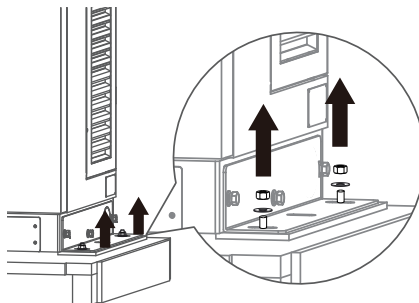

Figure 7. Detaching from Pallet
3) Remove the 4 M10 bolts that attach the EVSE to the pallet. See Figure 7.